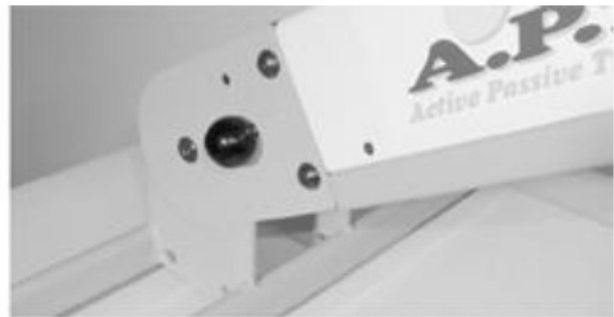

Figure 6 - angle release knob
- Loosen the angle-securing knob (Figure 5-1) and adjust the APT-5 to the required angle. To increase the angle, lift the body of the APT-5, allow it to “click” into one of the operating positions and retighten the securing knob. To decrease the angle, pull the angle release knob (Figure 6), lower the body of the APT-5, allow it to “click” into another operating position and tighten the securing knob.